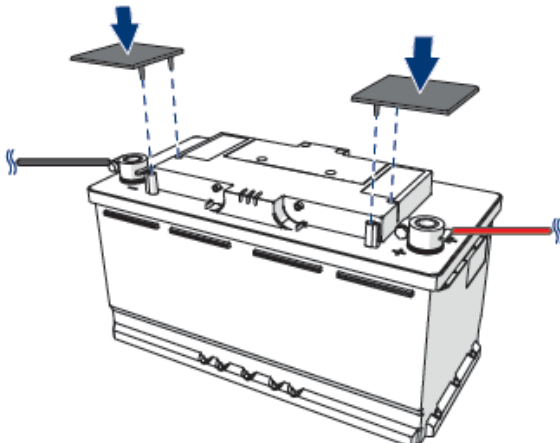

Figure 11: Place the accessory caps over the terminals
5. Place the accessory caps over the terminals, see Figure 11.